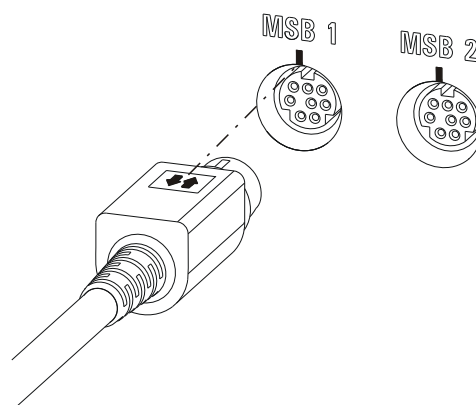

Figure 5 MSB connector
- When making the connection, take care to ensure that the flat part of the MSB plug marked with arrows is pointing in the direction of the marking on the MSB connector (*see figure 5, page 15*).